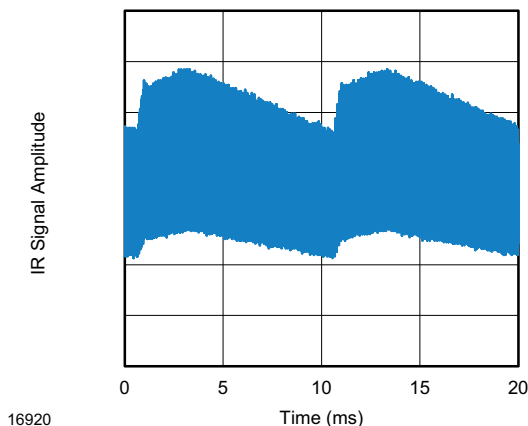
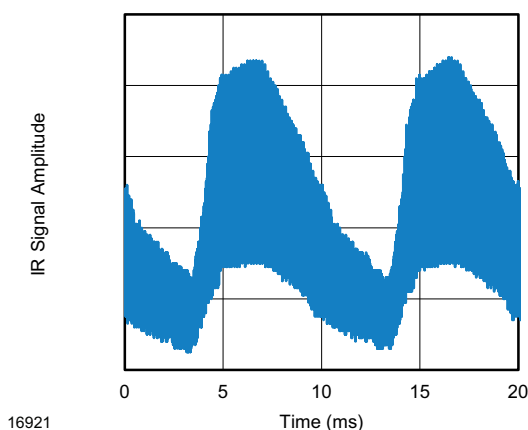

Fig. 13 - IR Emission from Fluorescent Lamp With Low Modulation
Fig. 14 - IR Emission from Fluorescent Lamp With High Modulation
- Strongly or weakly modulated patterns from fluorescent lamps with electronic ballasts (see Fig. 13 or Fig. 14).